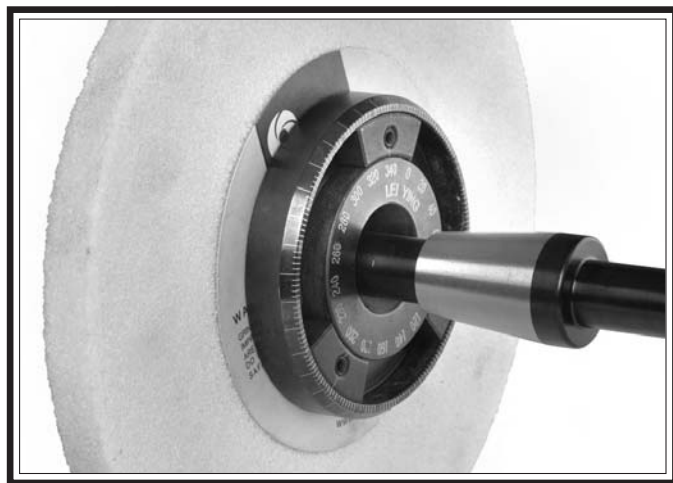

Figure 35. Installing the balancing arbor.
- Using a slightly-oiled lint free cloth, wipe the mating surfaces of the balancing arbor and the internal hub taper perfectly clean, and push the hub and arbor together, as shown in **Figure 35**.